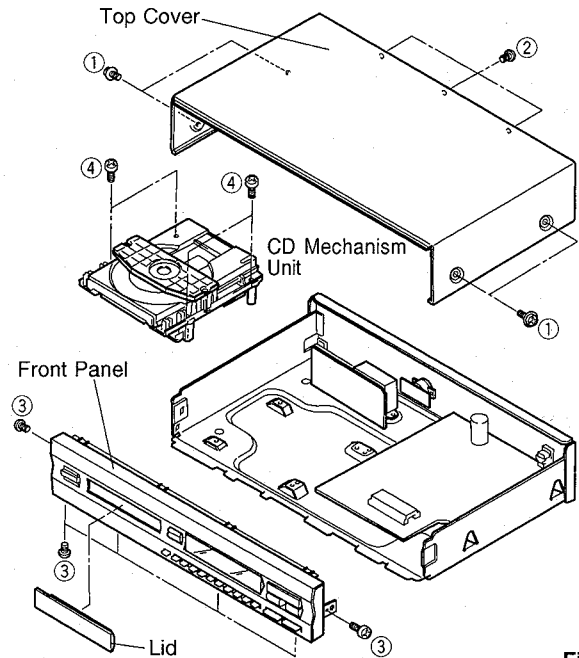

Fig. 1
- ① P.C.B. MAIN (4)
- ② P.C.B. MAIN (1)
- ③ P.C.B. MAIN (5)
- ④ CD MECHANISM UNIT
- a. Remove 4 screws ( ① ) and 3 screws ( ② ) in Fig. 1.
- c. Remove 6 ( ③ ) screws in Fig. 1.
- b. Remove 4 screws ( ④ ) in Fig. 1.